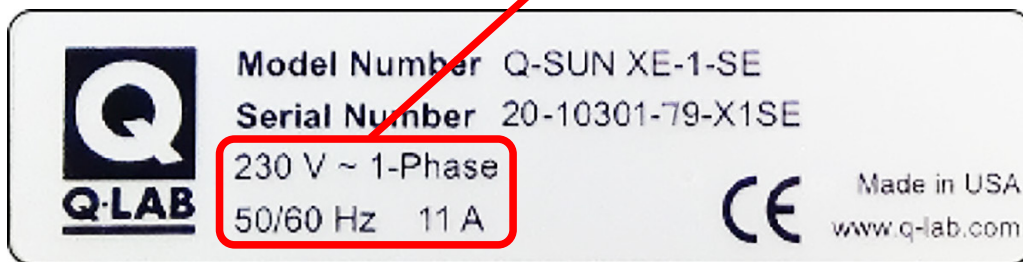

Figure 6.2b: Voltage and current shown on nameplate.
- The input voltage and current rating are shown on the nameplate attached to the rear of the unit (Figure 6.2b).